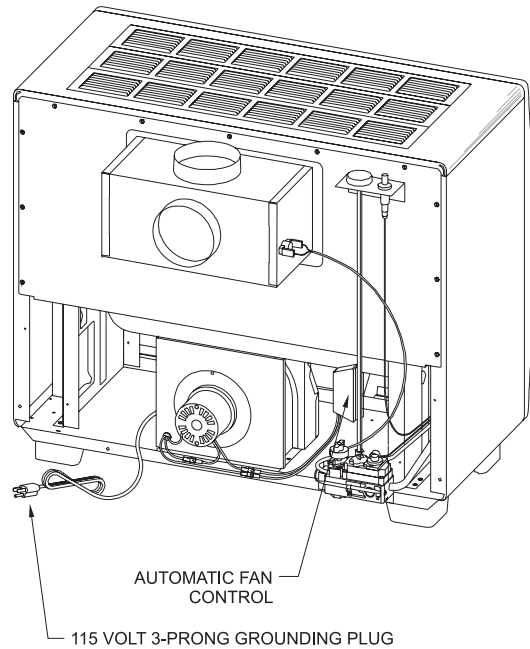

Figure 8
3. Align blower housing with blower cushion and use two #10 x 1/2" (13mm) hex-head screws to attach blower housing to bottom assembly. **See Figure 8.**